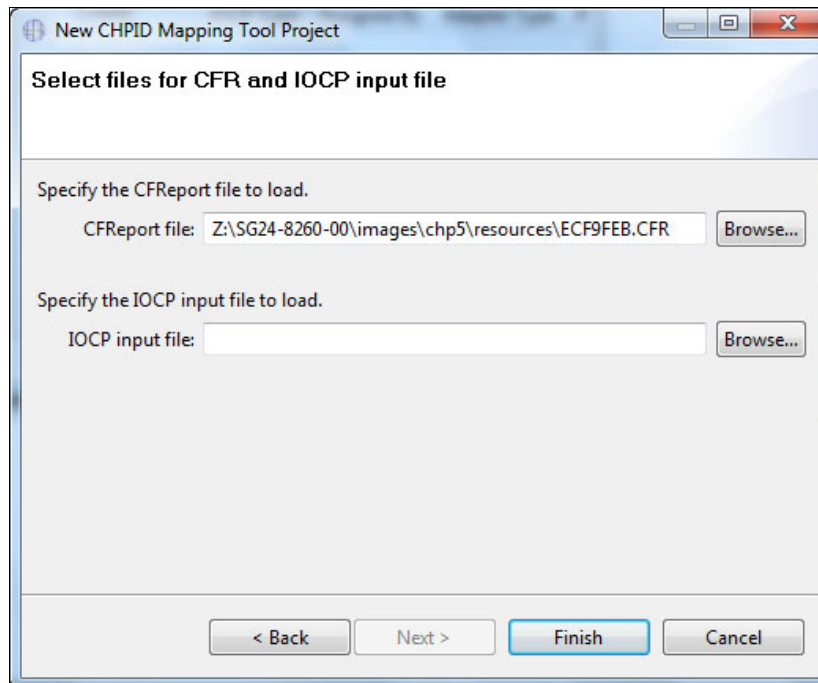

Figure 8-53 CMT - Specifying the CFReport file
4. Import the CFReport file into the CHPID Mapping Tool by specifying the name in the CFReport file field, and then click **Finish** (Figure 8-53).